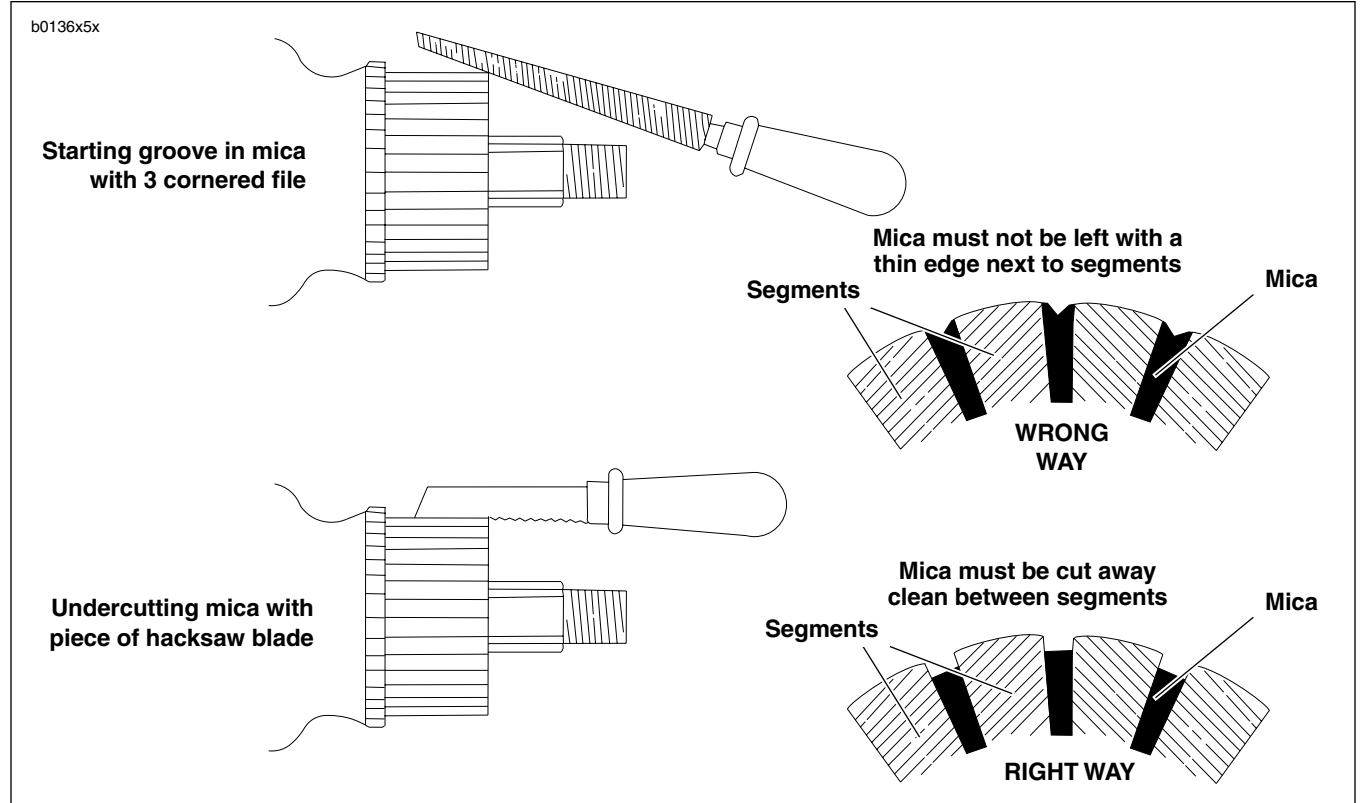

Figure 5-17. Undercutting Mica Separators
- *See Figure 5-17. If an undercutting machine is not available, undercutting can be done satisfactorily using a thin hacksaw blade. After undercutting, lightly sand the commutator with crocus cloth to remove any burrs.*